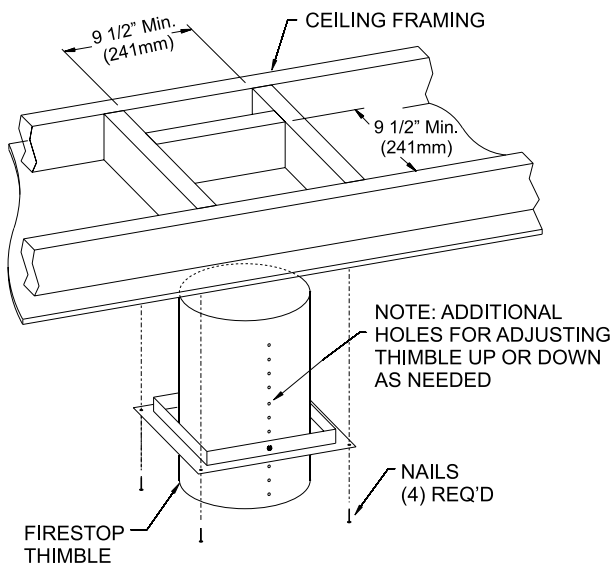

Figure 51
4. Once the fireplace location has been determined, mark the ceiling where the flex vent will pass through. Cut an opening in the ceiling framing where the firestop thimble assembly. The opening must measure a minimum of 9-1/2" x 9-1/2" square. See Figure 51.